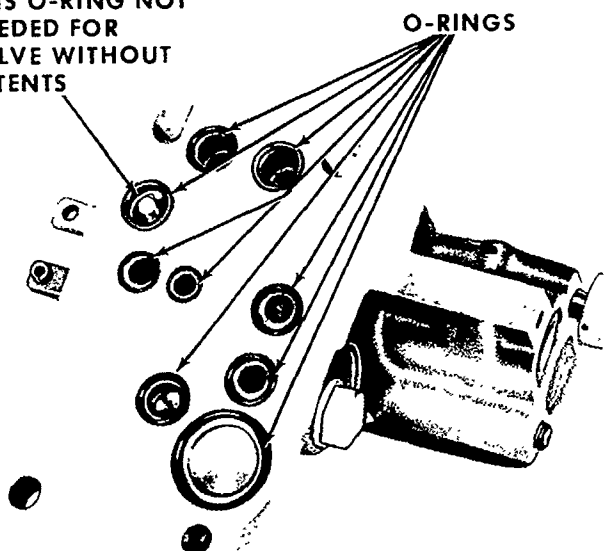

Figure 5
2. Install new lubricated sealing O-rings as shown in Figure 5.